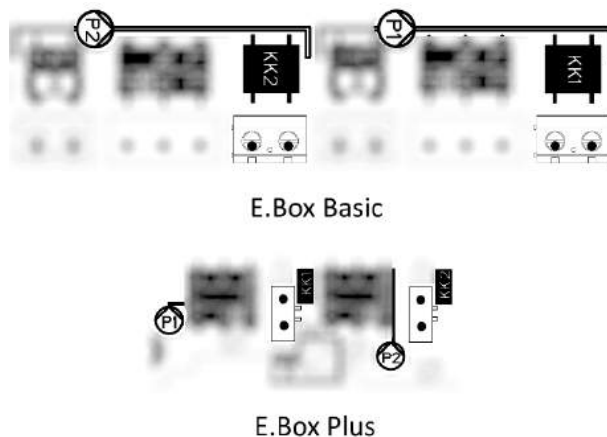

Figure 21: Thermal protection inputs KK
- **Motor thermal protection:** the device has an input for the thermal protection of each motor. If the motor used is provided with thermal protection, this protection can be connected to the terminals KK. If the protection is not present in the motor, the terminals must be jumpered. The terminals can be seen in Figure 21.